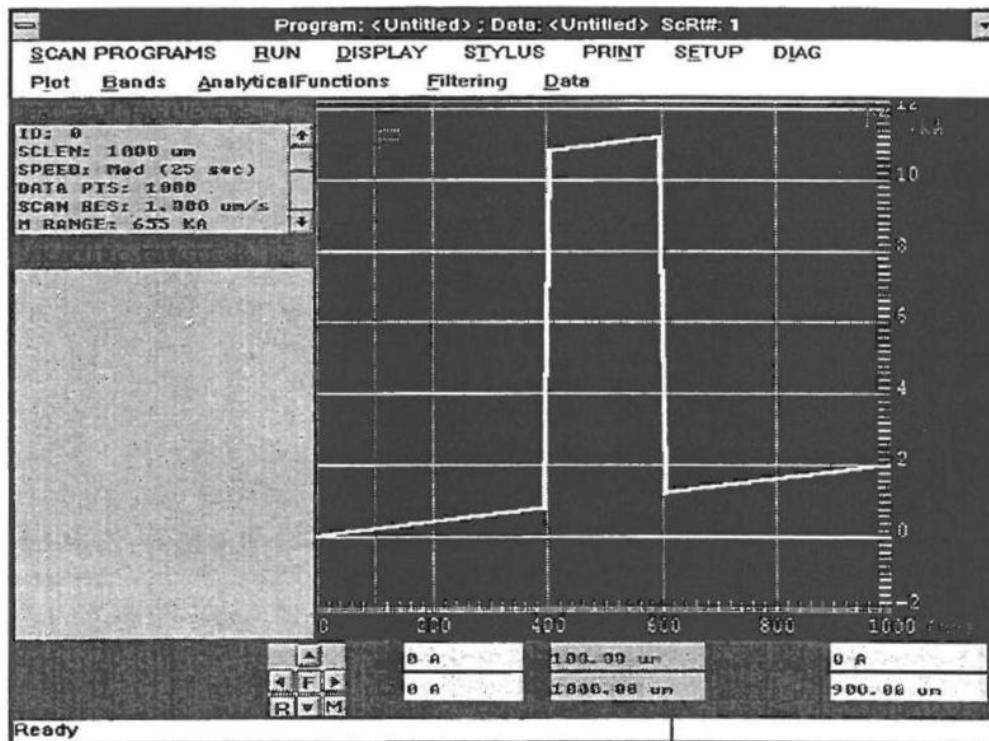

Figure 4 - 1 Calibration Standard Profile
3. Once the scan is complete, the stylus will lift off the surface and the stage will return to the X-Y location where the scan originated. The profile is then automatically re-plotted and re-scaled. The image displayed on the monitor should resemble Figure 4 - 1.